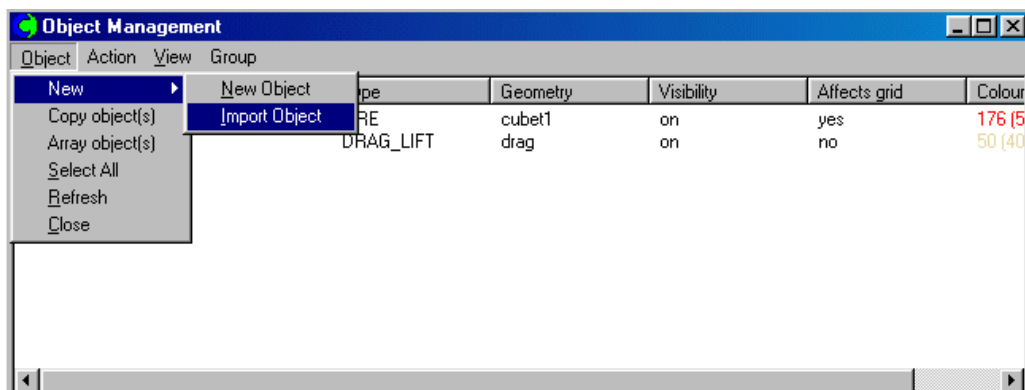

Figure 3.28 The Object Management dialog box
- Click 'Object' button on the Main controls, the Object management dialog box will appear on the screen as shown in figure 3.28.